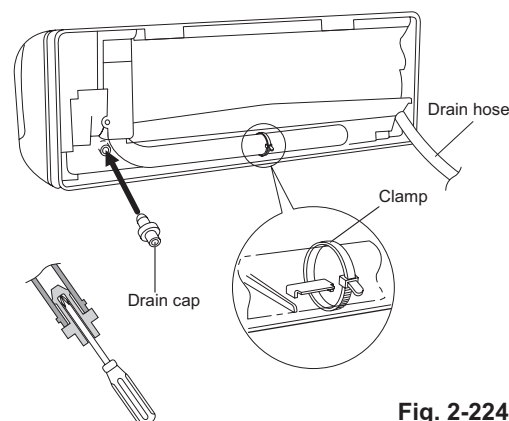

Fig. 2-224
- (d) Reattach the drain hose to the left side and the drain cap to the right side. (Fig. 2-224)